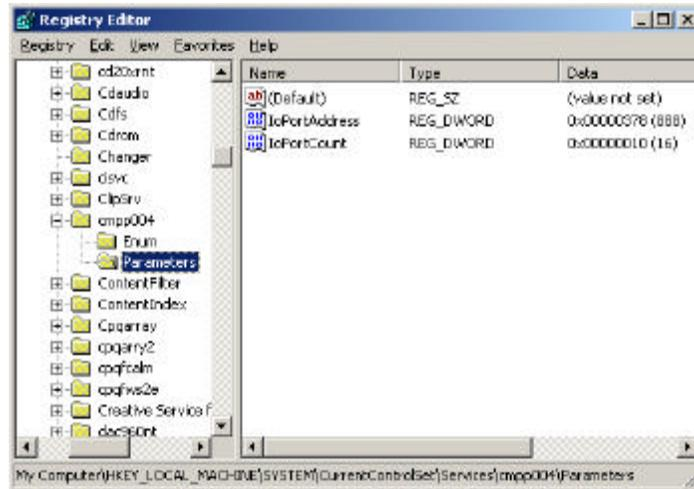

Figure 9: Editing the IoPortAddress registry key
**HKEY\_LOCAL\_MACHINE\SYSTEM\CurrentControlSet\Services\lcmpp004\Parameters** (see figure 9)